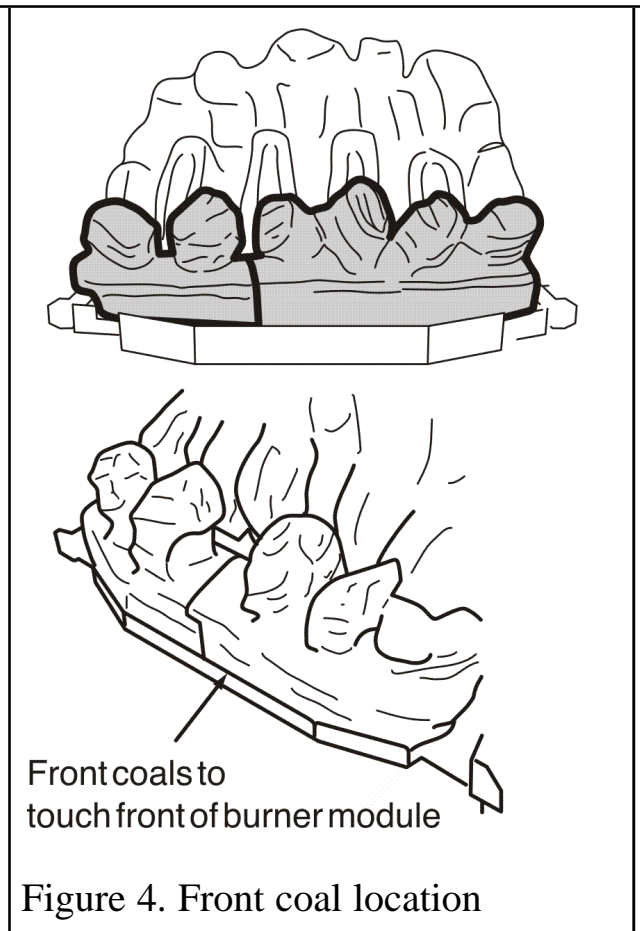

Figure 4. Front coal location
2. Place the left-hand ceramic front coal in position in front of the base coal (See figure 4).
3. Place the right hand ceramic front coal in position in front of the base coal. This should overlap the left-hand coal. Push the two sides together to minimise the gap (See figure 4).